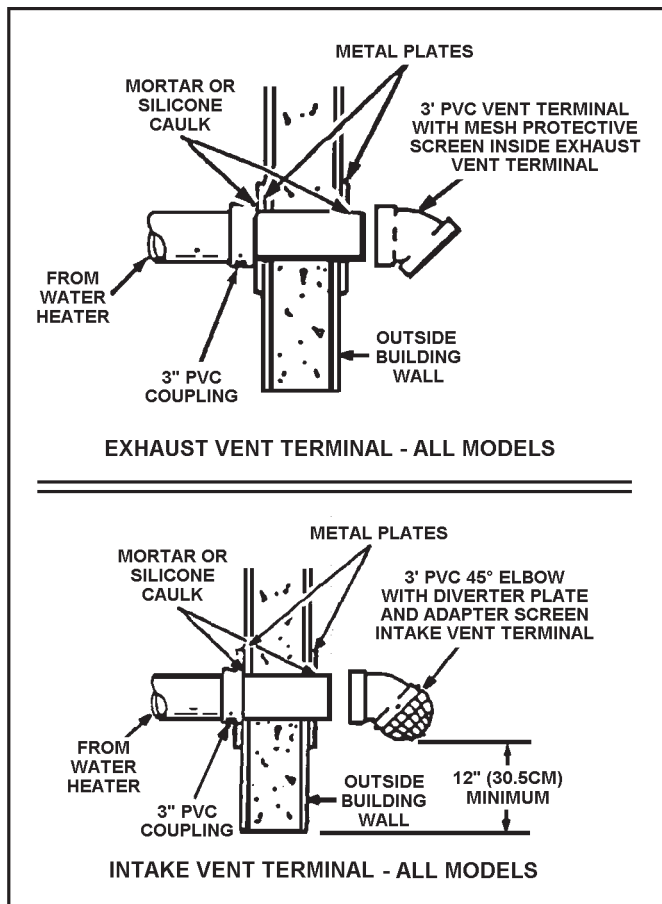

FIGURE 9.
8. If the vent pipe is installed up to the wall, with a coupling on the end against the wall opening, the pipe with the vent terminal can be prepared for gluing before inserting through the wall. Slide the pipe through the wall and insert into coupling on the other side of the wall, making sure that the vent terminal ends up pointed in the correct position (See Figure 9).